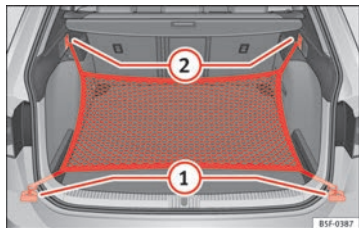

Fig. 111 In the luggage compartment: rings (1) and hooks (2) for securing the net bag (LEON ST model).
- Secure the short net hooks to the fastening rings ⇒ Fig. 111 (1) ⇒ ⚠. The bag zip should be facing upwards.
- Secure the straps in the bag hooks (2).